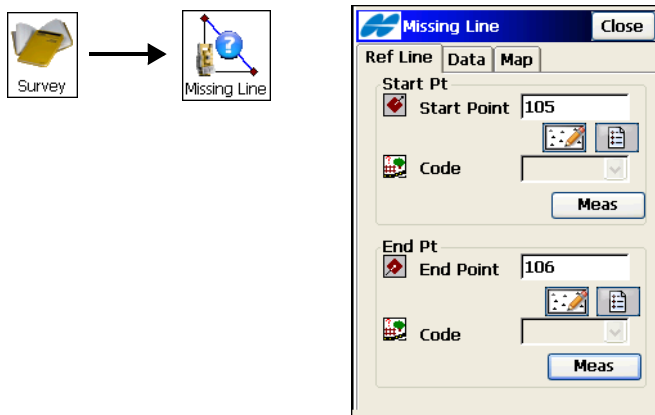

Figure 8-52. Missing Line – Ref Line Tab
1. To start working, tap **Survey ► Missing Line** (Figure 8-52 on page 8-48).